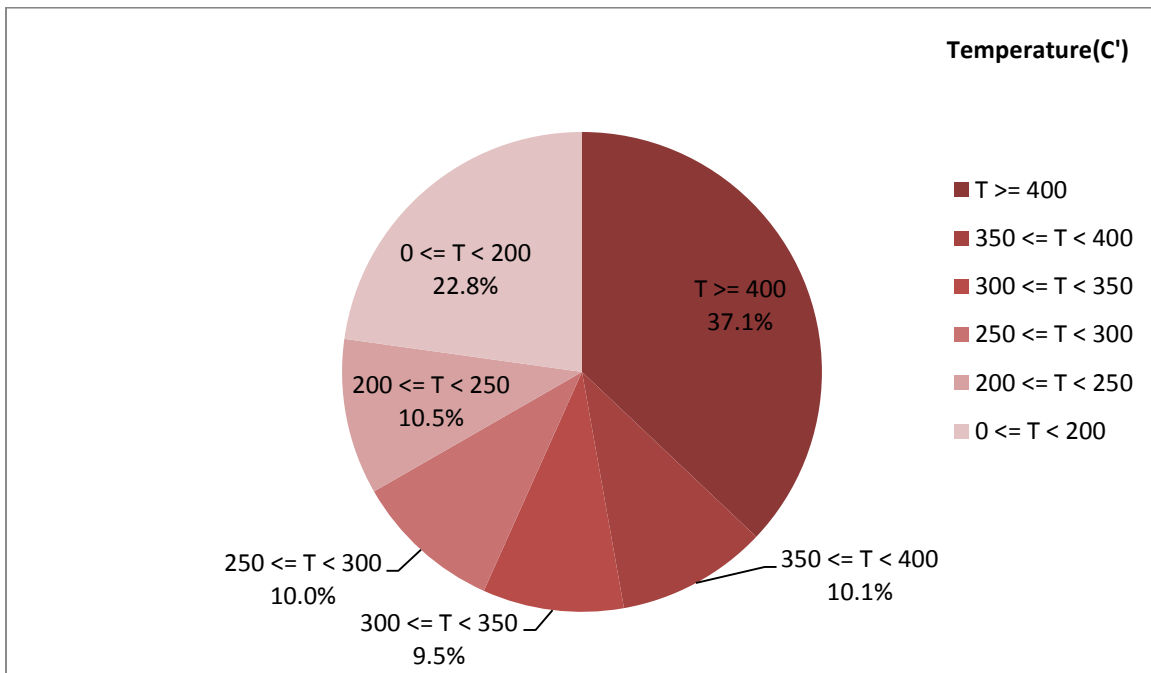

Figure 2-Temperature distribution over the working hours
- Figure 2 displays flow temperature before the DPF. It can be obviously observed that 37.1% of total working time temperature is above 400 °C and 47.2% above 350°C.